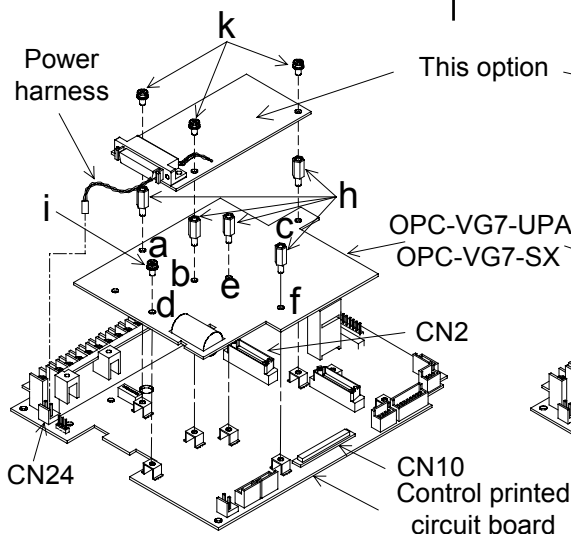

Fig. 7-11 Mounting Method of Digital Option (mounting at CN2)
- (1) Insert OPC-VG7-UPAC/SX into the connector (CN10) of the control printed circuit board.
- (2) Mount and fix 5 spacers (h) and a screw (i) accompanying OPC-VG7-UPAC/SX in the mount holes (a, b, c, d, e, f) of the OPC-VG7-UPAC/SX as shown in Fig. 7-11.
- (3) Mount the option so that the option connector (CN1) (at the back of option) may be inserted into the connector (CN2) of the control printed circuit board.
- (4) Connect the power harness from the option to CN24 on the control printed circuit board.
- (5) Tighten 3 accompanying screws (k) in the mount holes of the option and fix the product.